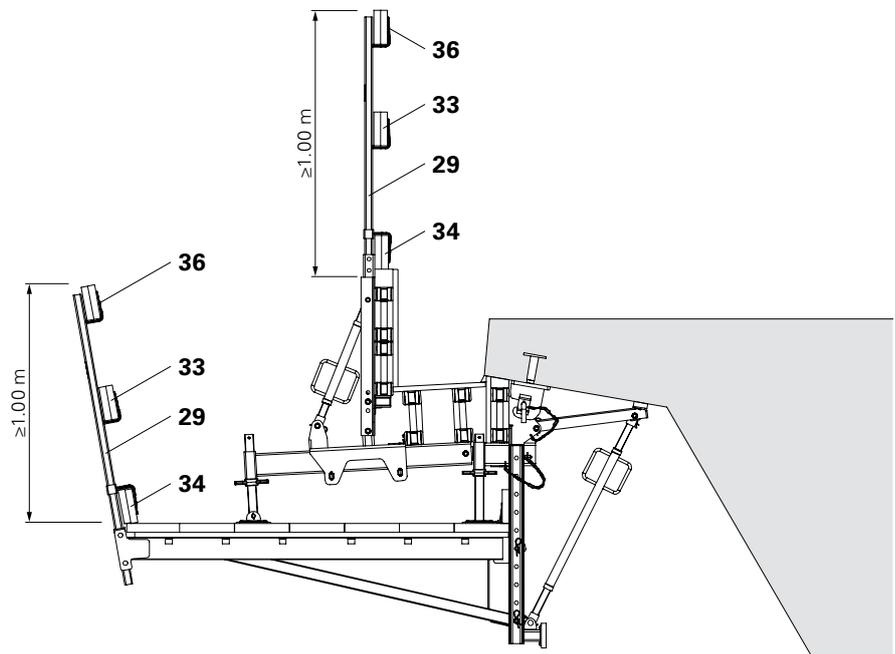

Fig. A6.03
- Fix Guardrail Boards (33) and Toeboards (34) to the Guardrail Posts HSGP-2 (29) with wire pins or wood screws (36). (Fig. A6.03)